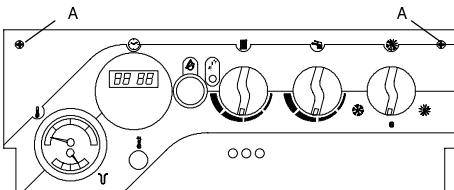

fig. 5.1
- 4 Undo the two screws "A" indicated fig. 5.1 and turn over the control panel towards you.